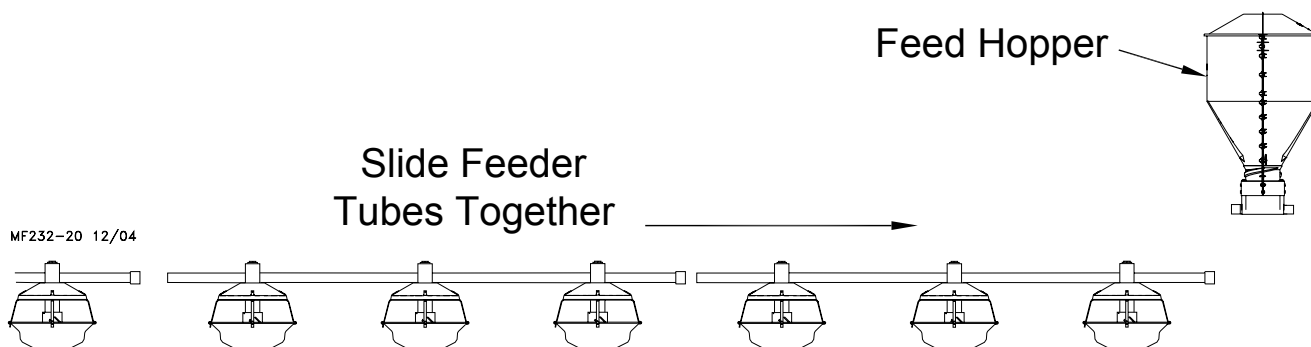

Figure 26. Feeder Line Assembly Procedure
1. The tubes should be laying end to end in approximately the final location of the line. The expanded end of each tube should be toward the Hopper end to the line, **see figure 26**.